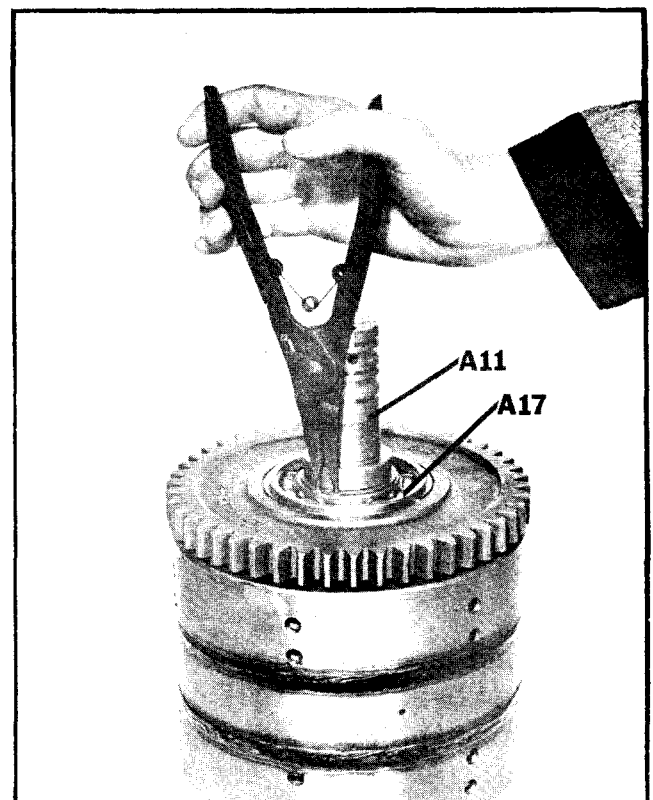

Figure 38
3. Install snap ring (A-17) onto shaft (A-11) (Figure 38).